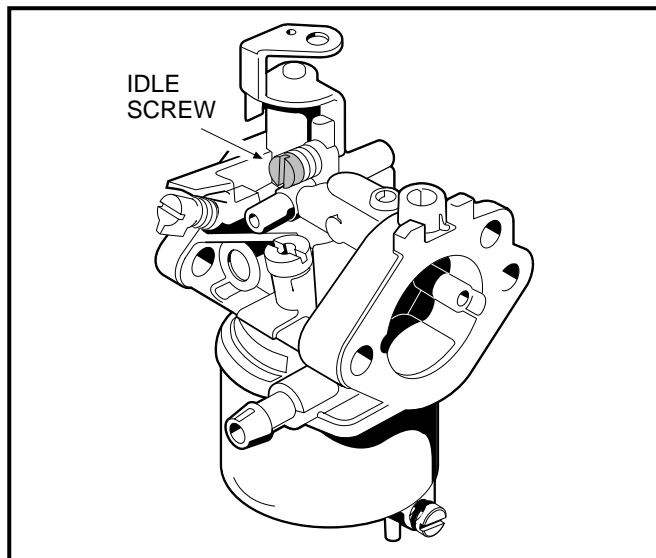

Figure 14-12 Idle Screw
1. With the engine running and the Forward/Reverse handle in NEUTRAL, attach a tachometer (CCI 1016112) to the spark plug wire and adjust the idle screw on the carburetor until the tachometer reads 1200 to 1250 RPM (**Figure 14-12, Page 14-13**).